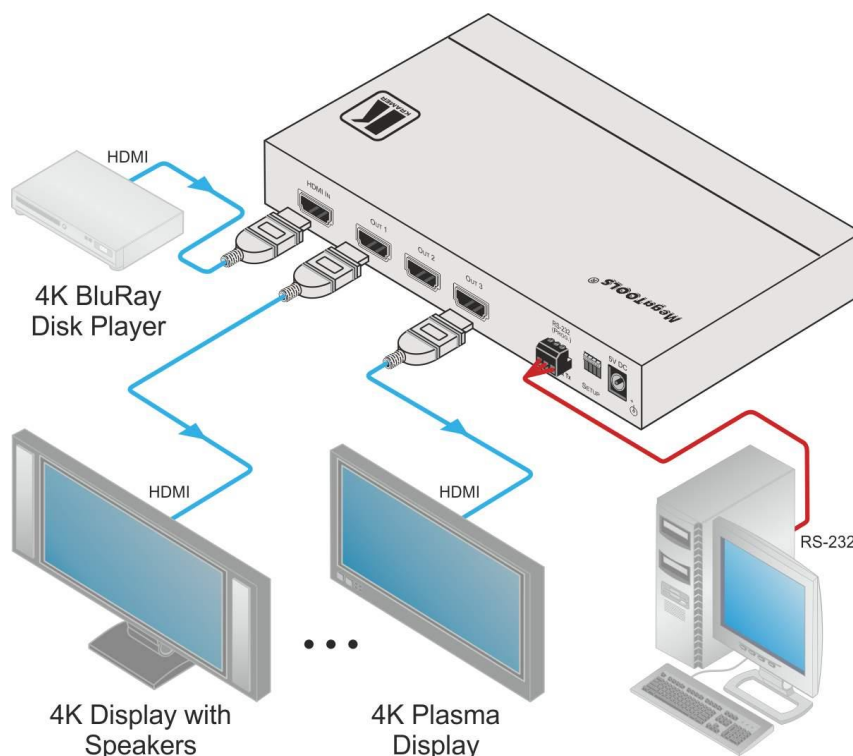

Figure 2: Connecting the VM-3H2 4K HDMI 2.0 1:3 DA
To connect the **VM-3H2**, as illustrated in the example in Figure 2, do the following:
- 3. Connect the 5V DC power adapter to the power socket unit and then connect the adapter to the mains electricity (**not shown in Figure 2**).